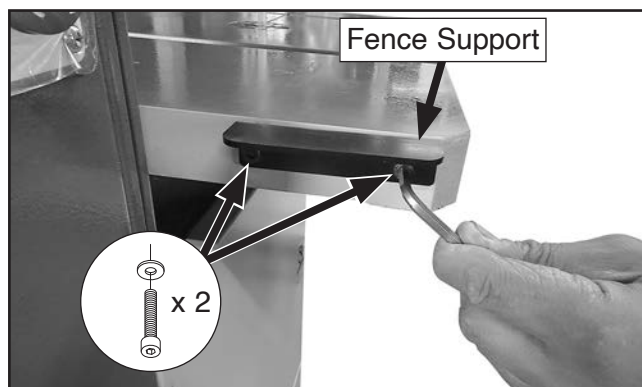

Figure 29. Installing fence support.
8. Install fence support using (2) M6-1 x 12 cap screws and 6mm flat washers (see **Figure 29**).